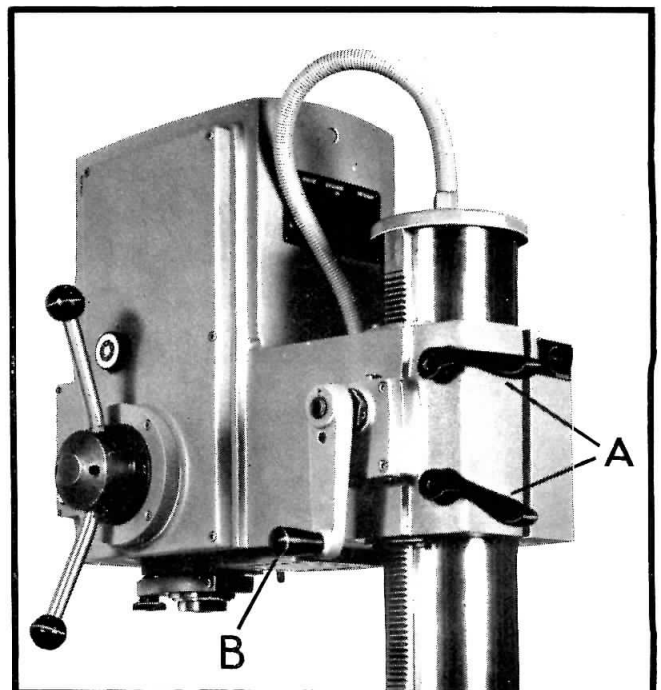

FIG. 9
The head on your machine is easily raised or lowered by loosening the two locking levers (A) Fig. 9 and turning and pushing simultaneously towards the head hand lever (B) until the head is at the desired height. After the head is at the desired height, tighten locking levers (A).